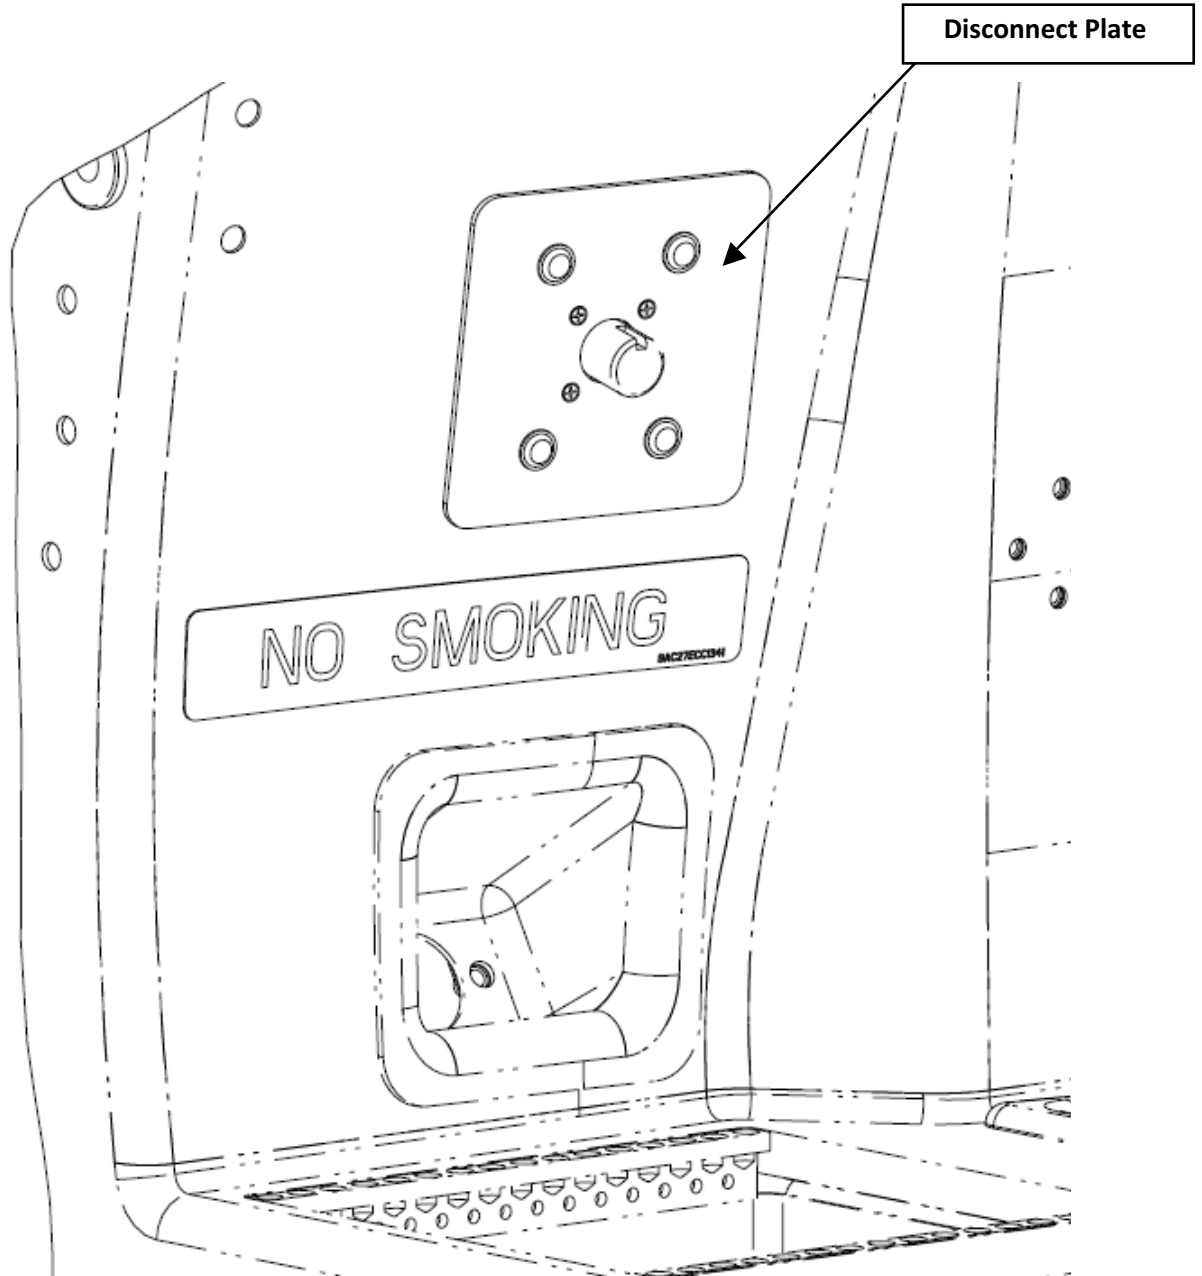

FIGURE 4: DISCONNECT PLATE
- » Disconnect plates will be installed in the left and right side console on Boeing mounting provisions. See Figure 4. The first officer's installation is a mirror image.